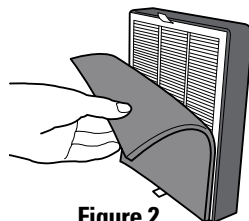

Figure 2
- b. Remove the Pre-Filter/Charcoal layer from the Velcro strips on the HEPA Filter layer (Figure 2).